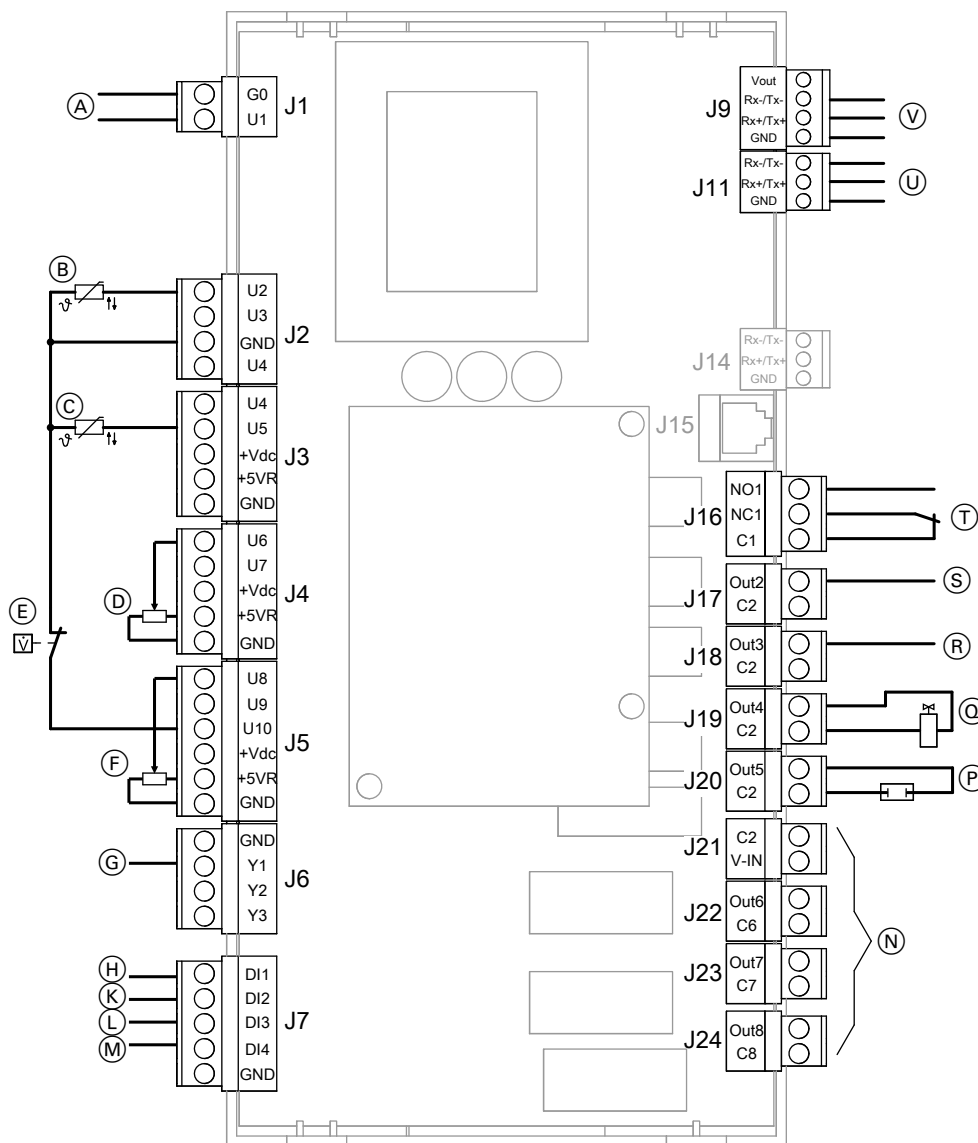

Fig. 84
- Ⓓ Modbus connecting cable to controller PCB, connection Ⓟ in Fig. 84